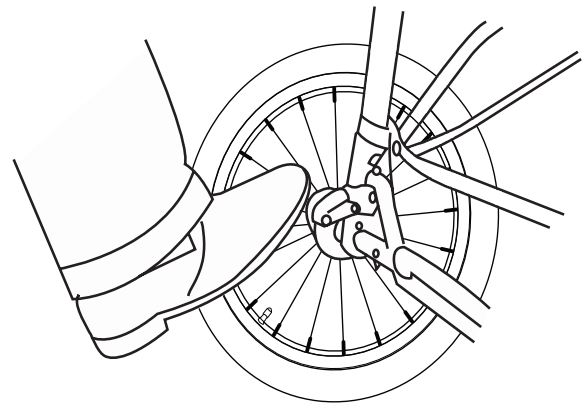

Fig. 7
13. To lock brakes, press downward on brake lever located on each rear wheel (Fig. 7). Please note in order to line up the break tab with brake tab slots stroller may need to be moved forward or backwards slightly. Check to make sure the brakes are in a fully locked position, so stroller will not move when pushed. To release breaks, gently push up on the brake lever.